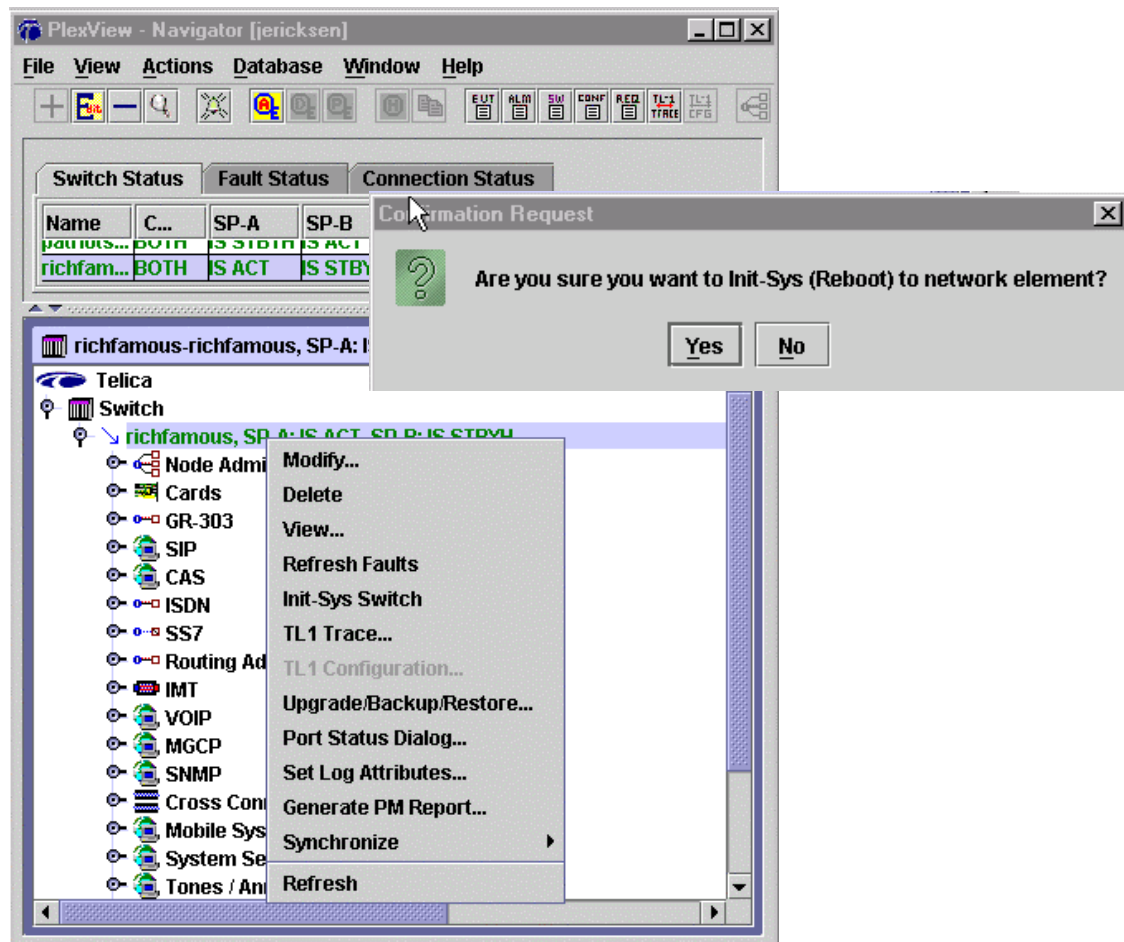

Figure 4. Initializing the System
13. You will now need to reboot the system. Right-click the switch name and select *Init-Sys Switch*. At the confirmation screen, select *Yes*. See Figure 4.